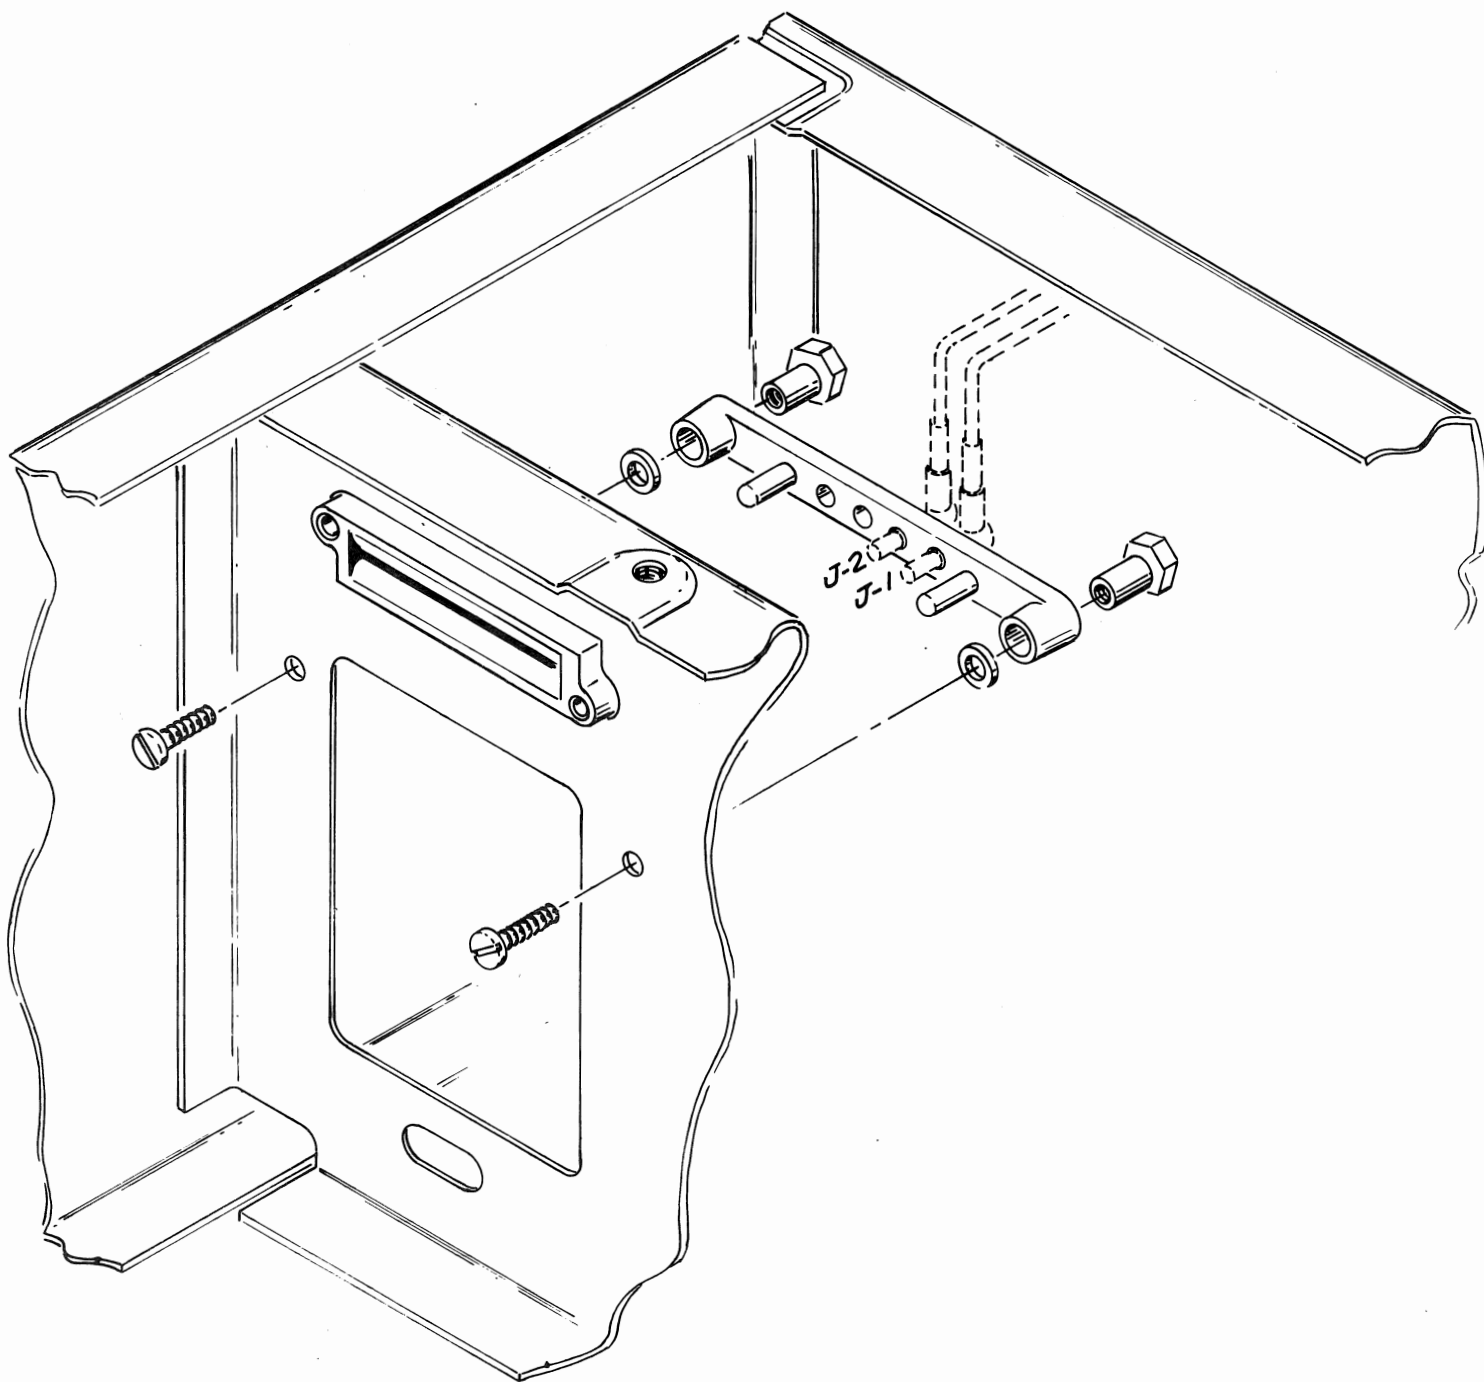

Fig. 3
- ( ) 3. Mount the connector holder (from kit) as indicated in Fig. 3, using the 6-32 x 1/2 PHS screws, spacer nuts, and flat spacers from the kit.
- ( ) 4. Install the small (Cannon) connector from the coax-connector assembly (from kit) in position J-1 or J-2 on the holder (see Fig. 3). Since the proper location for the connector depends upon the plug-in type and specific input connector to be used, refer to the table below to make your choice: